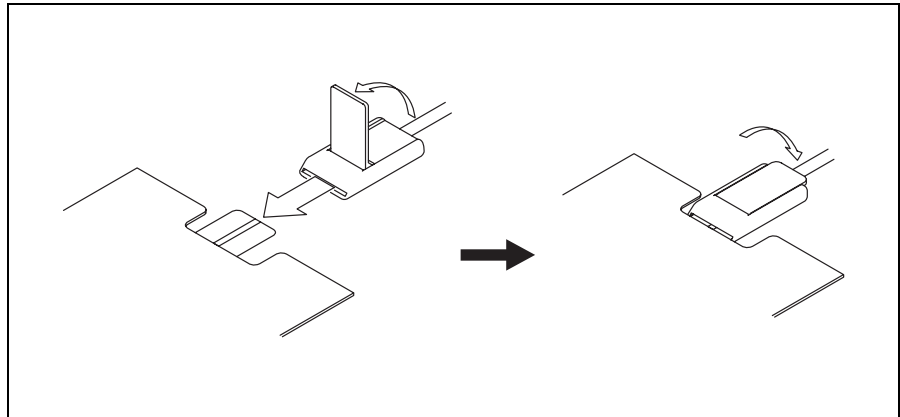

Figure 3.3
2. After confirming that the P cord (MAJ-814) is free of scratches and cracks, attach the P cord to the patient plate. Lift the lever-locking arm, then position the patient plate tab evenly between the clamp jaws. Lock the clamp by fully depressing the lever-locking arm (see Figure 3.3).